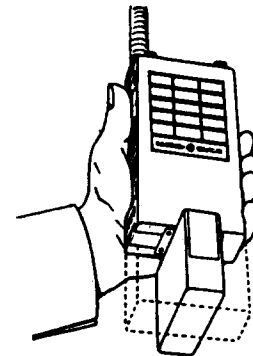

Figure 4 - Battery Pack Replacement
1. Hold the battery pack at a 90° angle to the radio as shown in Figure 4.